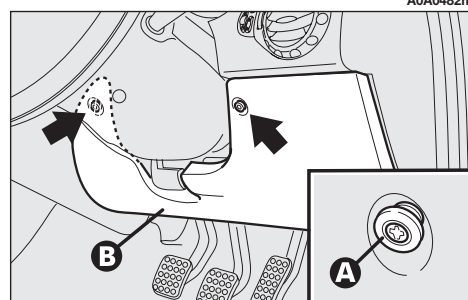

fig. 27
Access is gained to the control box on the dashboard by slackening the two retainers (A-fig. 27) and removing the protective trim (B).